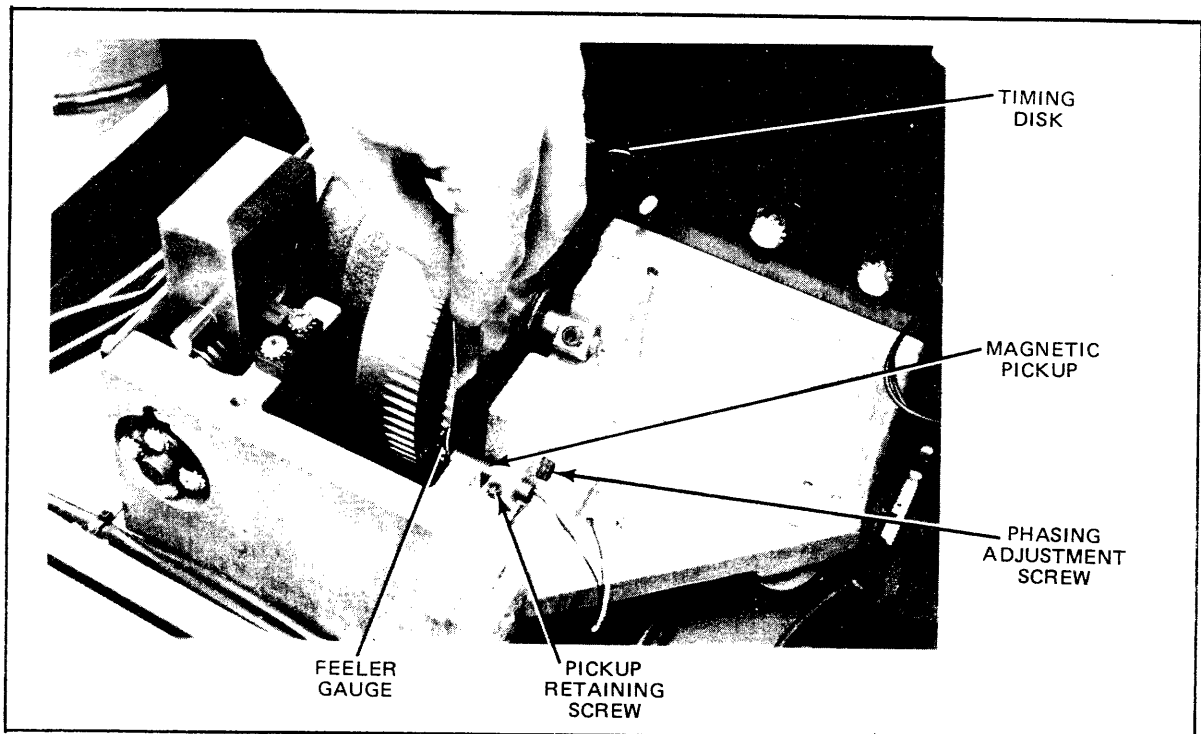

Figure 61 Adjusting Magnetic Pickup Gap
c. Using a feeler gauge between pickup and timing disk (figure 61) rotate pickup until the narrowest pickup-to-disk gap (throughout disk revolution) is 0.010 in.  $\pm$ 0.002 in.
a. Slightly loosen phasing-adjustment screw (figure 61) on rear of magnetic pickup arm so that the arm can be manually pivoted through a vertical arc with some force applied. Arm *must not* swing freely.